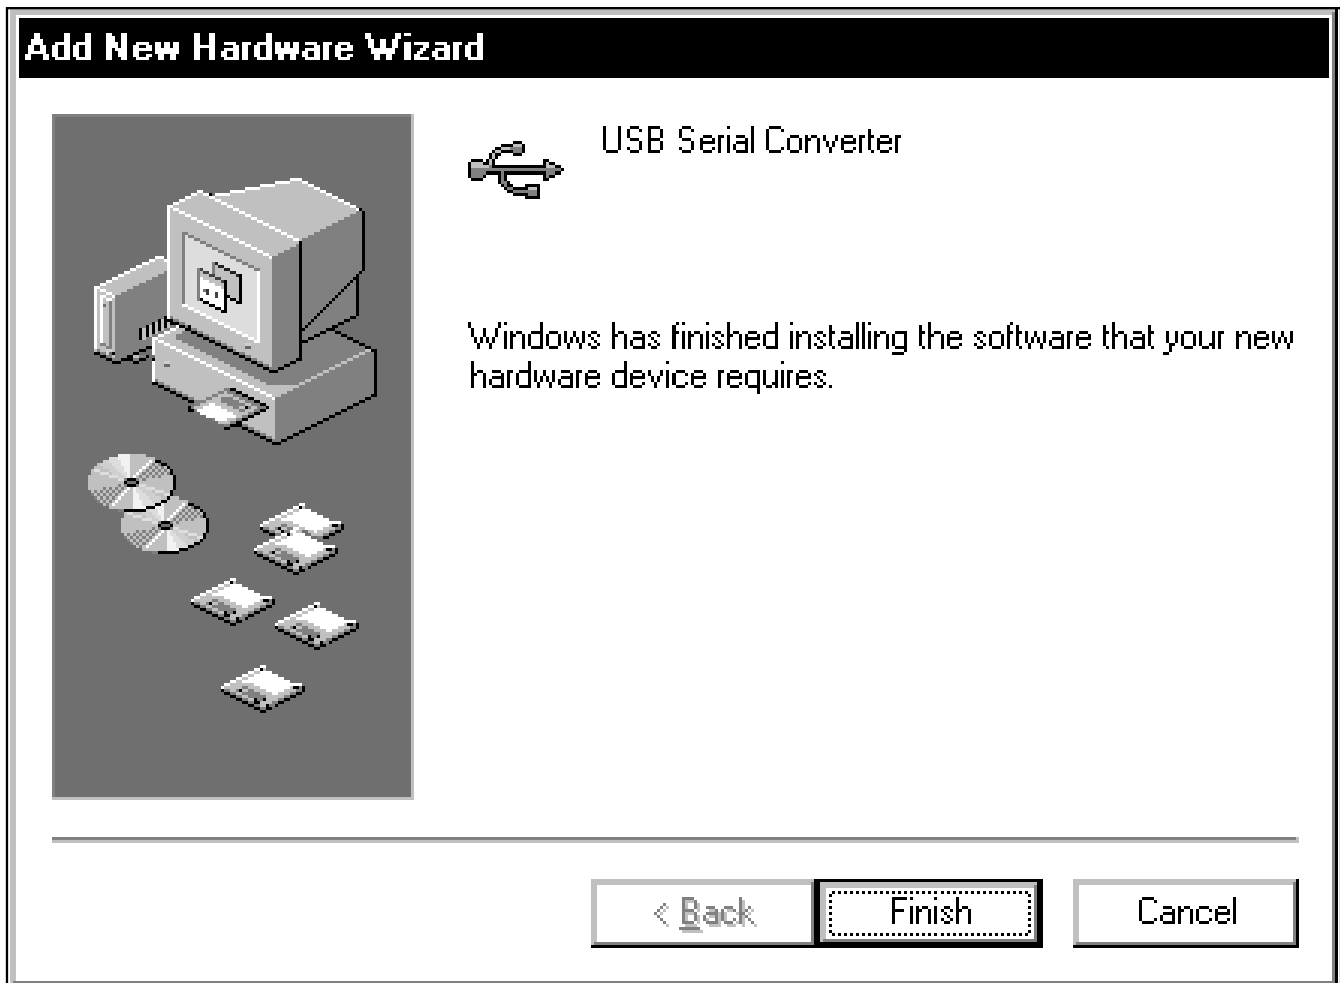

Figure 27. Windows 98SE: **Add New Hardware Wizard | Complete** Window
- 5) The next window is the **Add New Hardware Wizard | Complete** window (Figure 27). Press the **Finish** button to complete the driver installation.